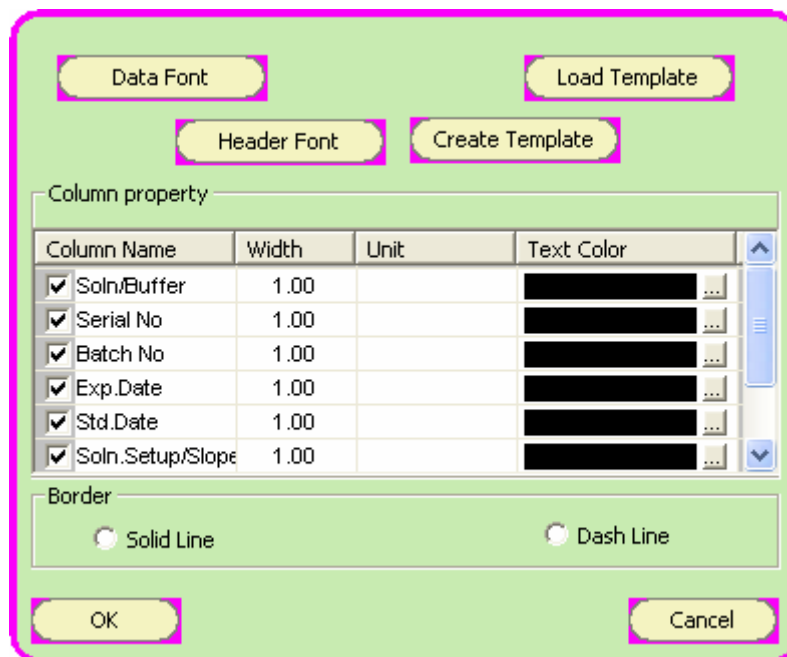

Figure 44 : Formatting data
1. Right-click on block of data which you wish to format. A dialog box appears (Figure 44)